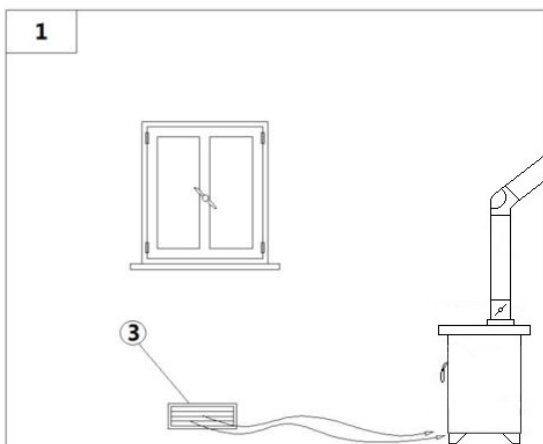
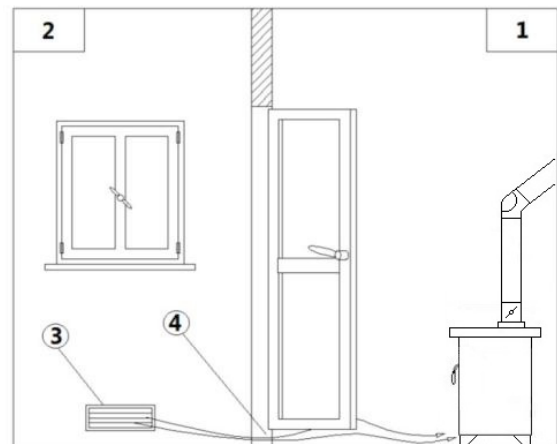

Fig. 6 - Direct air inflow
Fig. 7 - Indirect air inflow
LEGEND	Fig. 6 page 9 Fig. 7 page 9
- The air inflow from outside to the inner occurs directly, through an opening on the external wall of the room (see **Fig. 6 page 9**); otherwise it occurs indirectly by air suction from rooms adjacent to the one to ventilate (see **Fig. 7 page 9**).